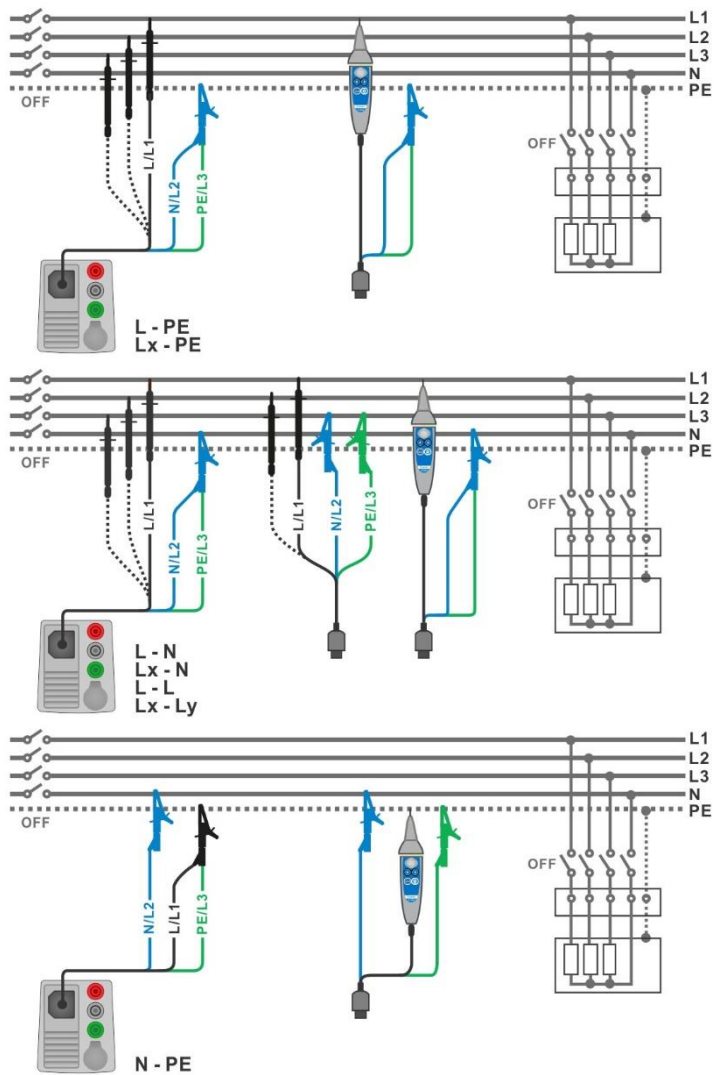
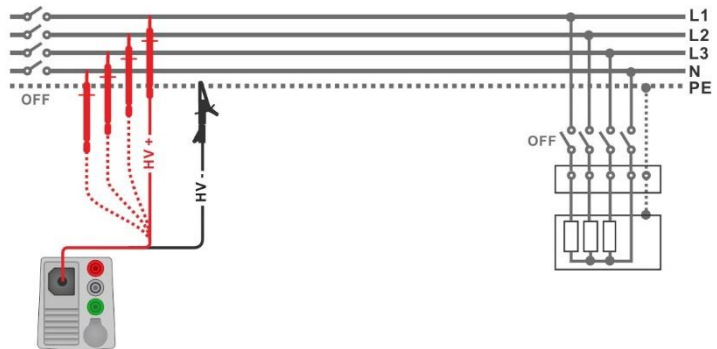

Figure 7.7: Connections of 3-wire test lead and Tip commander ( $U_N \leq 1$  kV)
Figure 7.8: Connection of 2.5 kV test lead ( $U_N = 2.5$  kV)
- ▶ Connect test leads to object under test (see *Figure 7.7* and *Figure 7.8*).